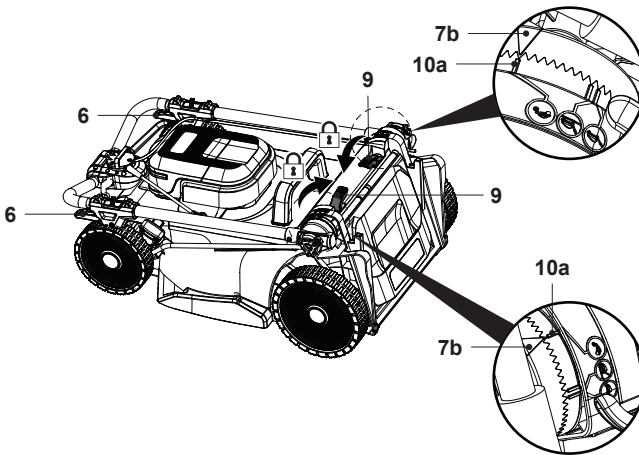

Fig. 24
- To save space, you can also open the two locking levers (6) and insert the upper handle all the way to stop, secure the connections (6, 9) and ensure that the indicating triangle (7b) is aligned with parking indicator (10a) to avoid scattering (Fig. 24).